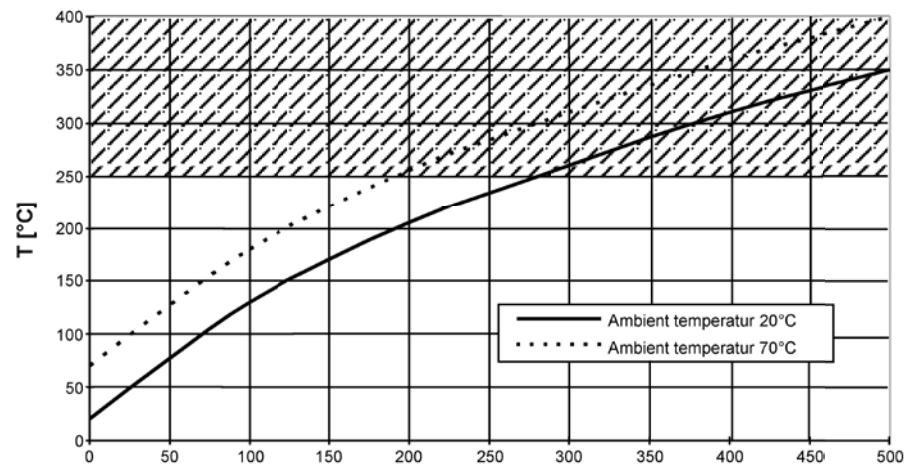

Fig. 9.4: Housing temperature ballast resistor DPRxx-200 at CDF = 100 %, max. T = 250 °C
Basis is the normal cycle time of 120 s. The casing temperature be determined with the temperature diagram in fig. 9.4 on the basis of the average power. The avarage power is calculated according to formula (4). The value taken from fig. 9.4 plus 5 K amounts to the casing temperature at the chosen poulse strength.